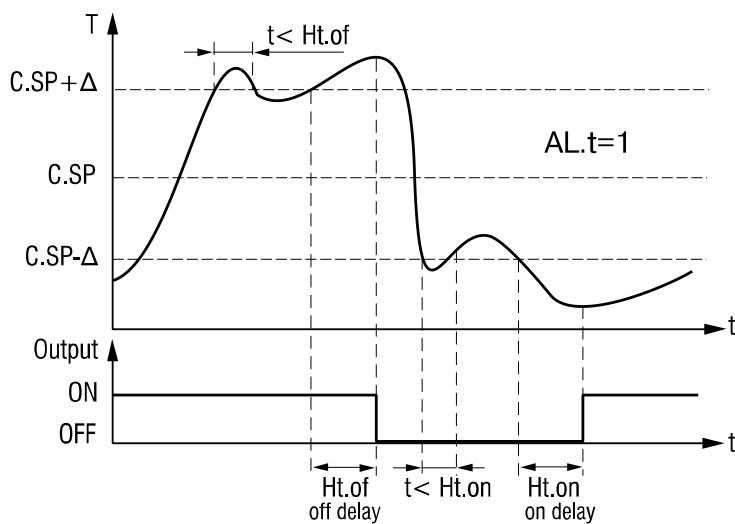

Fig. 6.10 Switch-on and switch-off delays
2. The parameters **Ht.on** and **Ht.oF** (PL-2 group) are switch-on and switch-off delays. They can be used to protect the output element from frequent switching. Output time diagram for this option is shown in Fig. 6.10.